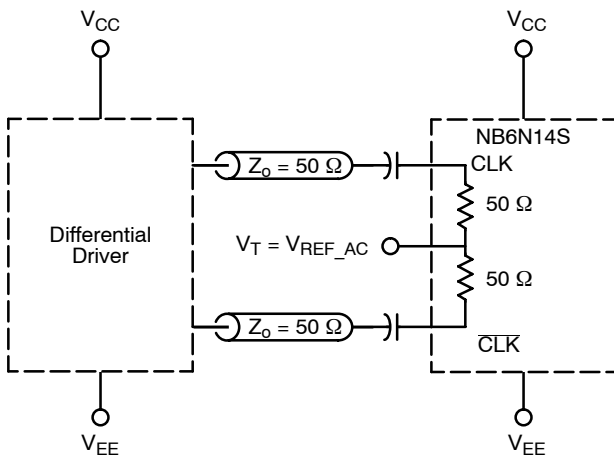

Figure 10. Capacitor-Coupled Differential Interface ( $V_T$  Connected to  $V_{REF\_AC}$ )
**DIFFERENTIAL INPUTS DRIVEN SINGLE-ENDED** (Figures 10, 11, 15, and 17)
11.  $V_{REF\_AC}$  used to rebias capacitor-coupled inputs only (see Figures 10 and 11).